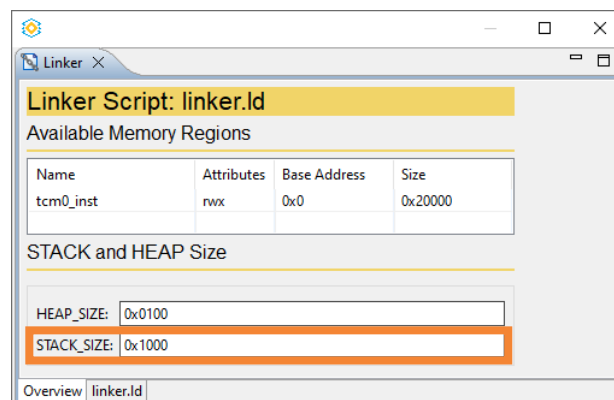

Figure G.8. linker.ld 2
**Note:** If you change this value, set STACK\_SIZE in the linker.ld file to the same value (Figure G.8).